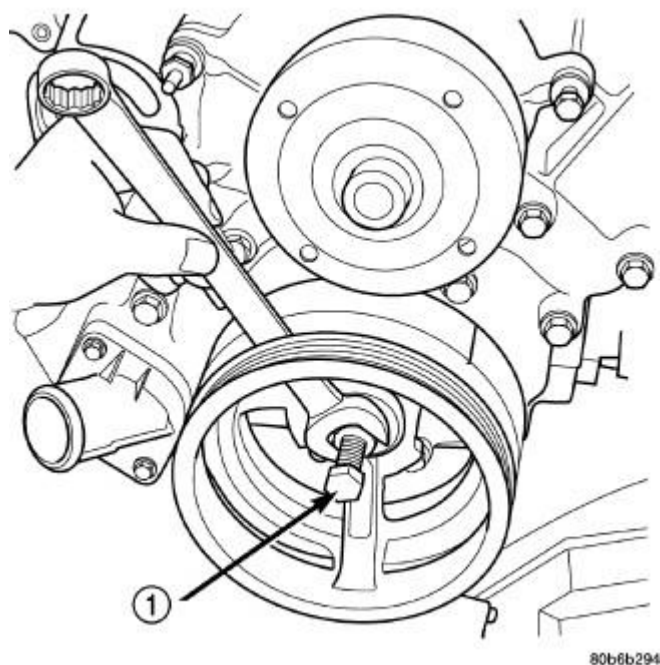

Fig. 87: Crankshaft Damper Installation
3. Using the Damper Installer (special tool #8512A, Installer, Damper) (1), press damper onto the crankshaft. Refer to **Fig. 87**.